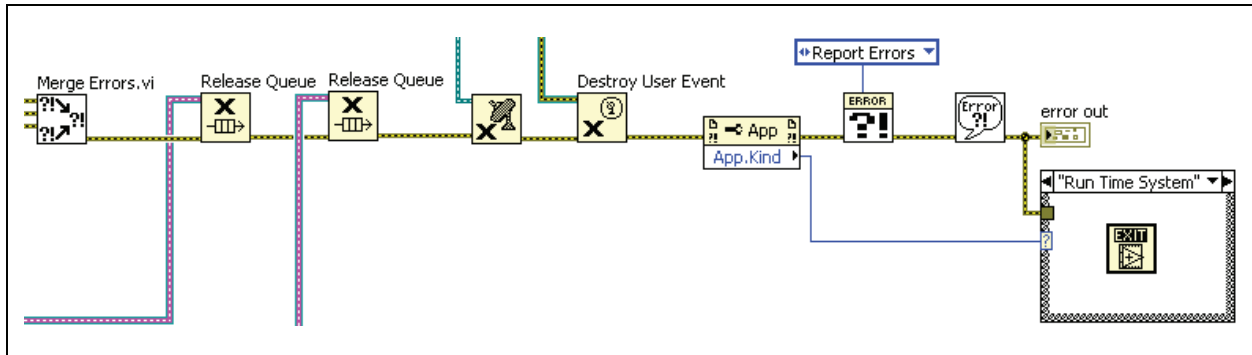

Figure 10-3. Quit LabVIEW
Use the Quit LabVIEW function to shutdown LabVIEW when the application completes. You can use the Application:Kind property with a Case structure to execute the Quit LabVIEW function only when the application runs in the Run-Time Engine, for example, when it runs as a stand-alone application. Implement this functionality as shown in Figure 10-3.
2. Wire the diagram as shown in Figure 10-3. The Quit LabVIEW function must be the last function that executes.